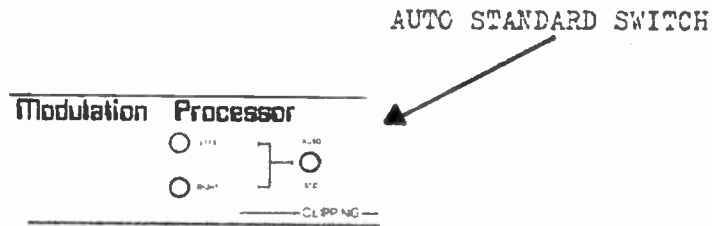

FIGURE 3-2 AUTO STANDARD SWITCH LOCATION
3.1.2 Auto/Standard Switch (Figure 3-2)